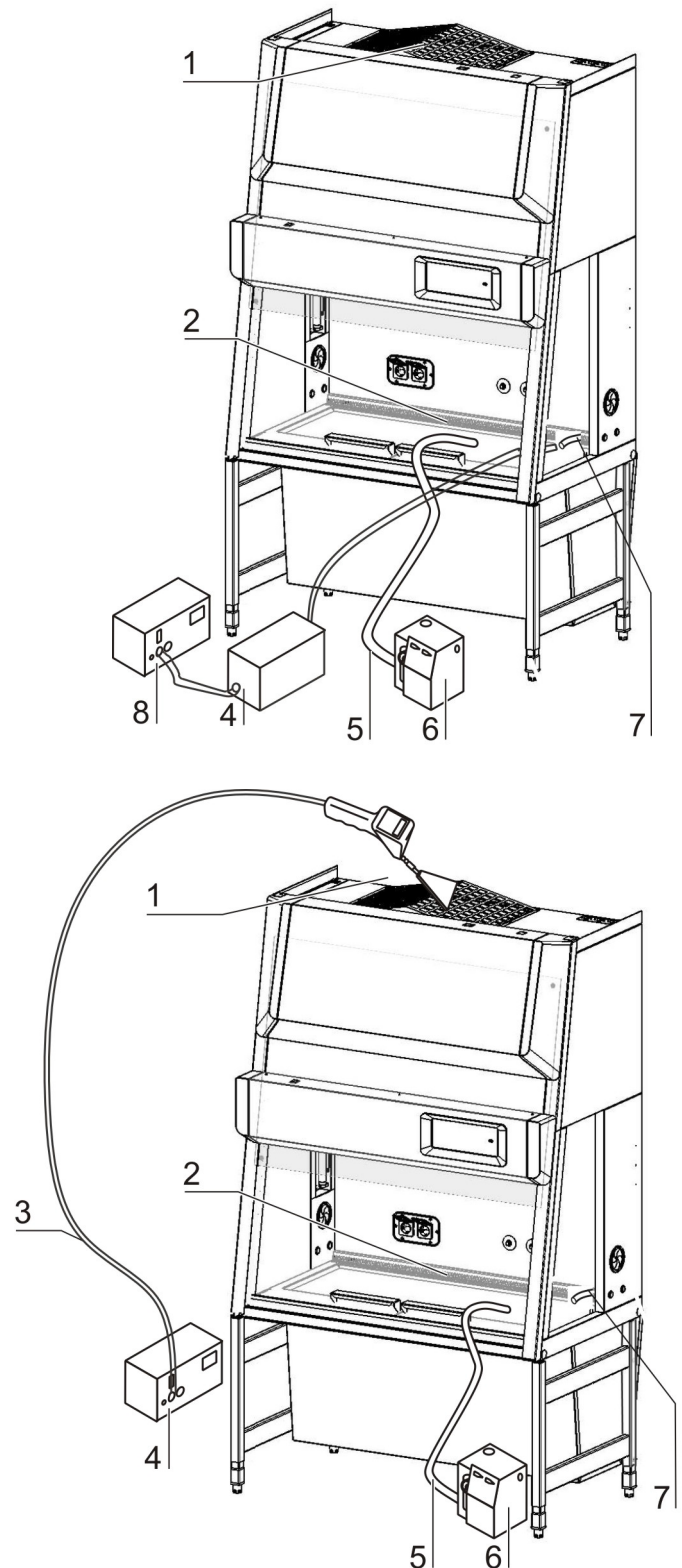

Figure 19. Testing Exhaust Filter Maxisafe 2030i
4. **Figure 19:** Then connect the connection hose [3] of the particle counter (without the dilution line) with the measuring probe.
Figure 19: Reconnect the testing hose supply [7] of the exhaust plenum with the dilution line hose [3] and then with the connection hose of the particle counter [8] and measure the aerosol- concentration (aerosol-generated air-concentration R2) in the circulation chamber for 1 min once again.